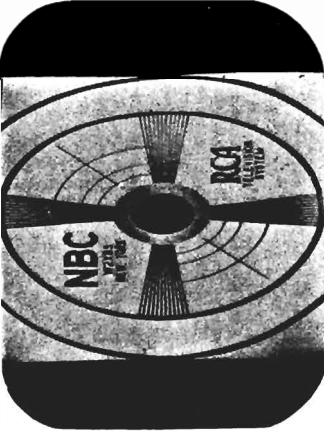

Figure 10—INCORRECT WIDTH
2. **Width**—The next screwdriver control determines the width of the picture and is adjusted when the receiver is installed. Further adjustment may occasionally be required in order to compensate for the gradual reduction in horizontal deflection with tube life. See Figure 10.